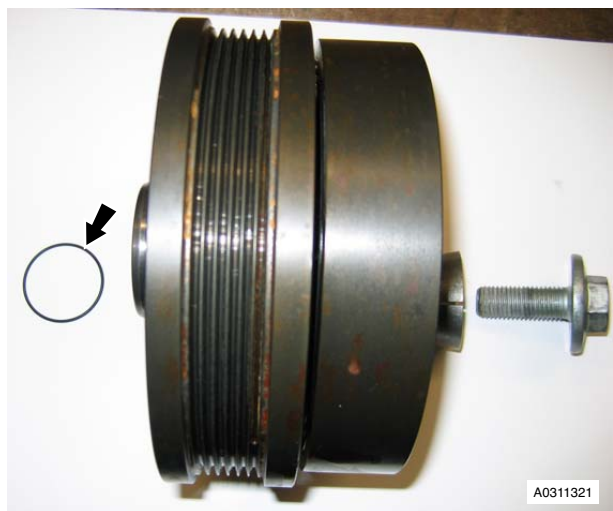

Figure 2
- Remove and discard O-ring seal from pulley (see Figure 2).